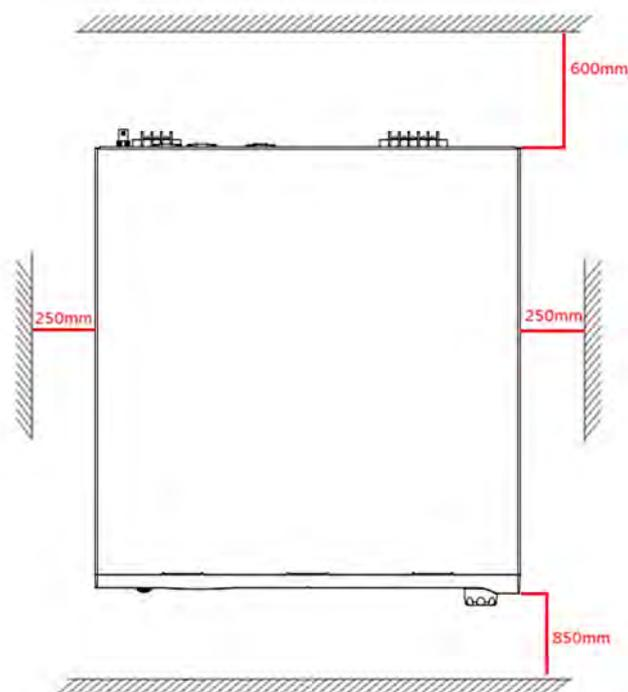

Figure 2.1 The required space for the device.
2. Leave sufficient space around the device for ventilation and maintenance (refer to Figure 2.1). Do not block the cooling fan opening in case of internal temperature getting too high and having bad impact on product life.